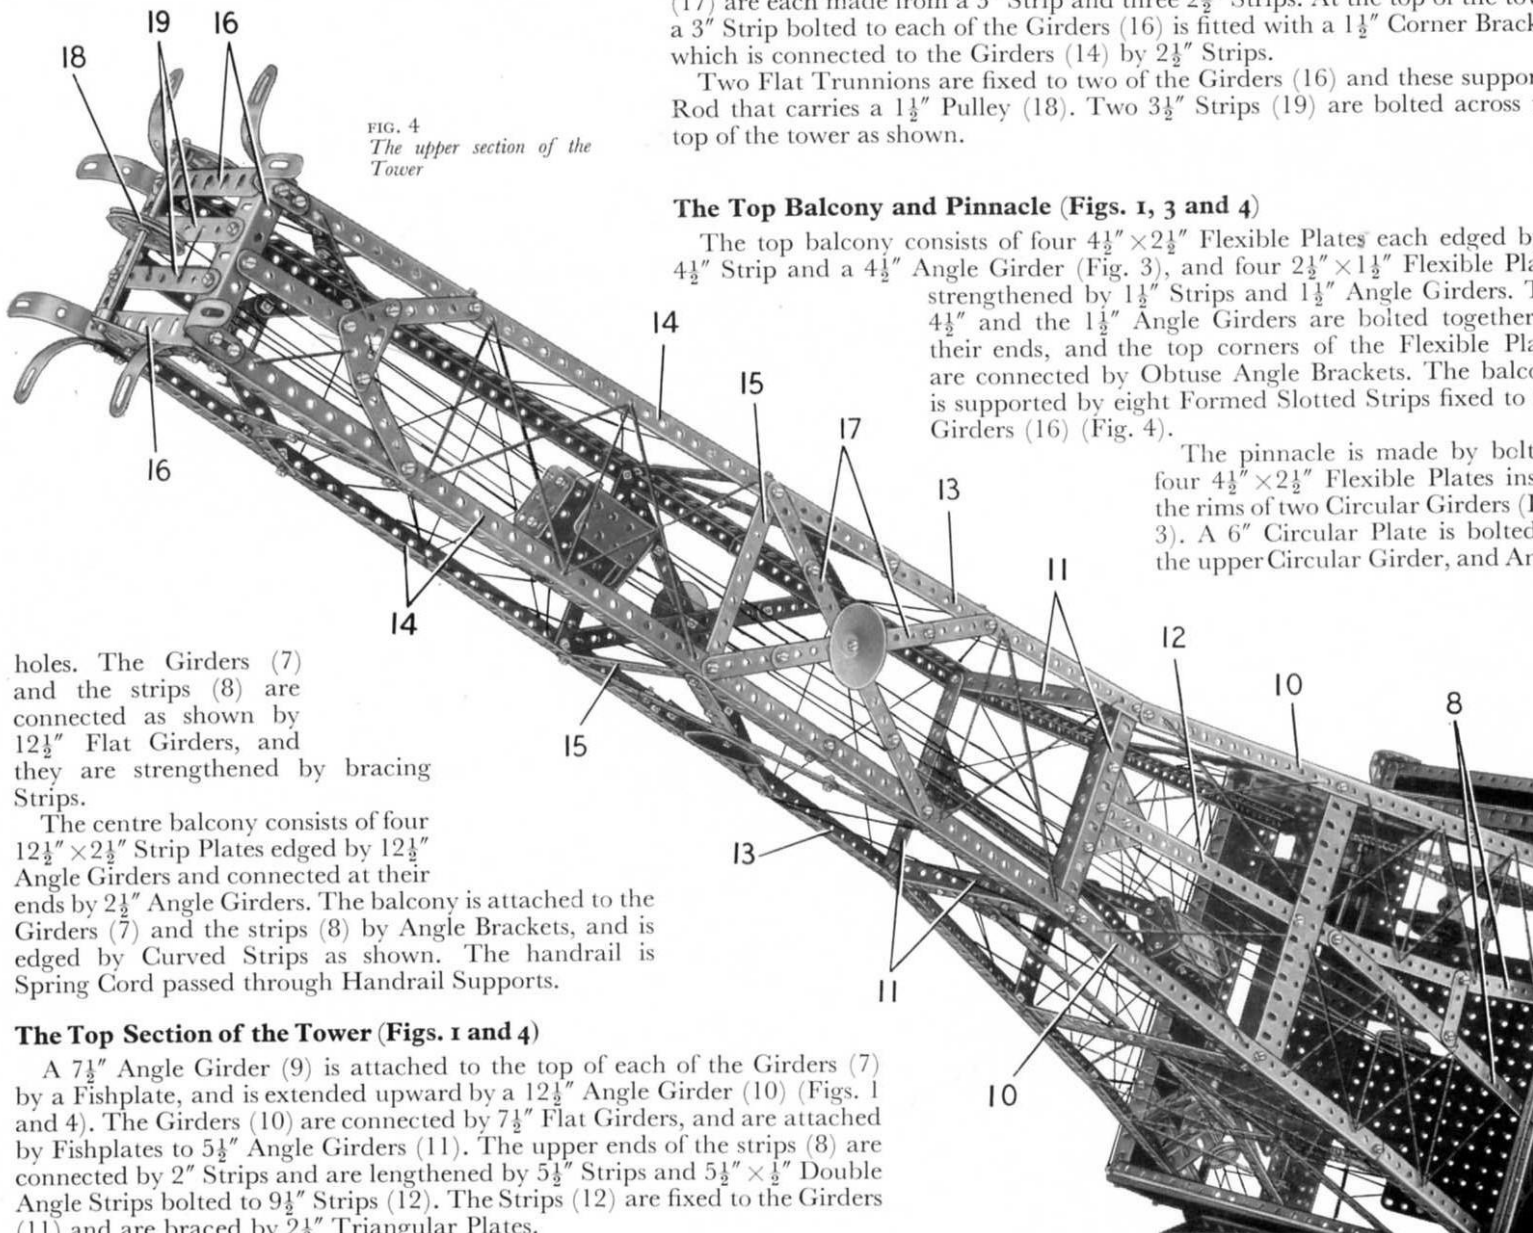
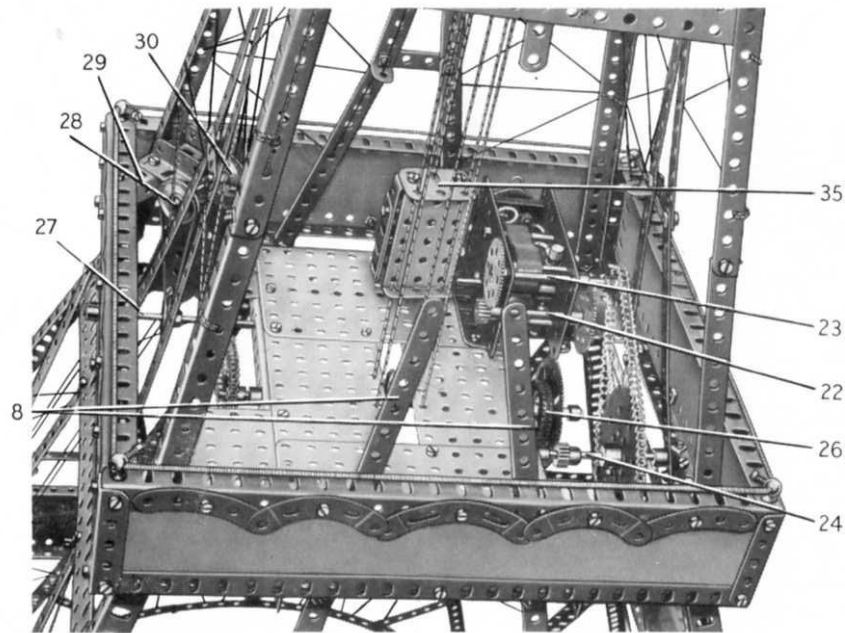
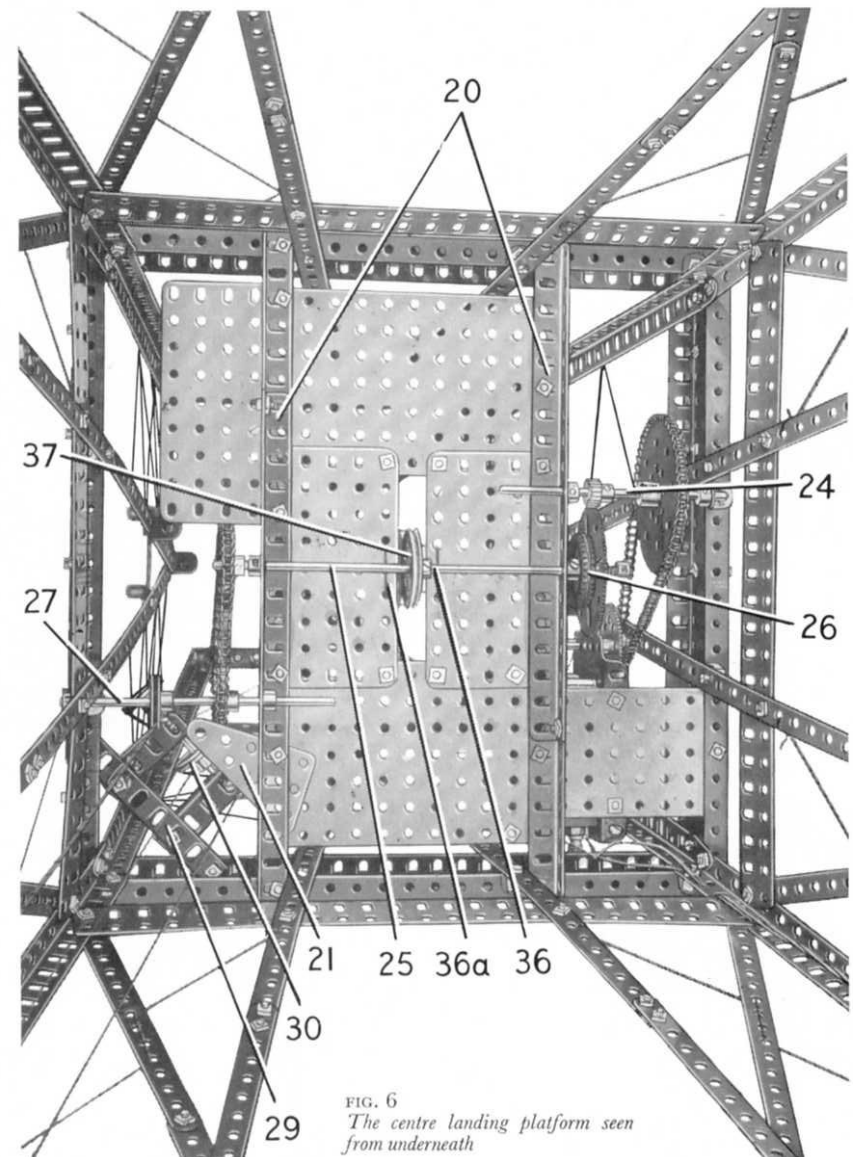

FIG. 4
FIG. 5
FIG. 6
The top balcony consists of four $4\frac{1}{2}$ " \times $2\frac{1}{2}$ " Flexible Plates each edged by a $4\frac{1}{2}$ " Strip and a $4\frac{1}{2}$ " Angle Girder (Fig. 3), and four $2\frac{1}{2}$ " \times $1\frac{1}{2}$ " Flexible Plates strengthened by $1\frac{1}{2}$ " Strips and $1\frac{1}{2}$ " Angle Girders. The $4\frac{1}{2}$ " and the $1\frac{1}{2}$ " Angle Girders are bolted together at their ends, and the top corners of the Flexible Plates are connected by Obtuse Angle Brackets. The balcony is supported by eight Formed Slotted Strips fixed to the Girders (16) (Fig. 4).
The Centre Landing Platform and Operating Mechanism (Figs. 5, 6 and 7)
Two built-up girders (20) (Fig. 6) are bolted underneath the centre balcony and to them are bolted Flat Plates as shown in Figs. 5 and 6. These Plates comprise two 5 1/2" x 3 1/2" Flat Plates and four 4 1/2" x 2 1/2" Flat Plates. A 2 1/2" x 1 1/2" Triangular Flexible Plate (21) is arranged as shown at one corner of the platform.
An E15R Electric Motor is bolted to the platform and a 7/16" diameter Pinion on its armature shaft drives a 60-tooth Gear on a 2 1/2" Rod (22) (Fig. 5). A 1/2" Pinion on this Rod engages a 57-tooth Gear on a 3 1/2" Rod (23), which carries also a 3/4" Sprocket. This Sprocket is connected by Chain to a 3" Sprocket on a Rod (24) mounted in one of the girders (20) and in an Angle Bracket bolted underneath the balcony. A 1/2" Pinion on Rod (24) drives a 2 1/2" Gear that is loosely mounted on a 6 1/2" Rod (25). A Compression Spring is placed on this Rod between the Gear and a Collar, and it forces the Gear against a Motor Tyre (26) on a 1" Pulley fixed on the Rod. This arrangement forms a
A 1 1/2" Sprocket on Rod (25) is connected by Chain to a 3/4" Sprocket on a 5" Rod (27) (Fig. 6). This Rod is mounted in one of the girders (20) and in an Angle Bracket bolted underneath the balcony. A Driving Band is passed round
a 1" Pulley on Rod (27) and round a similar Pulley on a 2½" Rod (28) (Fig. 5). Rod (28) is supported in two 2" Angle Girders bolted to a built-up girder (29). The girder (29) consists of a 3" Angle Girder and a 1½" Angle Girder bolted together. A 1" Pulley (30) is fixed on Rod (28).
The two lifts that operate between the centre platform and the top of the tower are each made by bolting two 2½" × 1½" Double Angle Strips between the flanges of a 2½" × 1½" Flanged Plate. A Girder Bracket is fixed to one Double Angle Strip, and a 1½" Flat Girder (35) (Fig. 5) is bolted to each flange of the Flanged Plate. The guide Cord for the lifts is tied to one of the Strips (19) (Fig. 4), is passed through the Flat Girders (35) of one lift, and through the second stage platform as indicated at (36) (Fig. 6). The Cord is passed through the Flat Girders (35) of the second lift and is taken through holes in the Strips (19) before it is again passed through the Flat Girders of the second lift. The Cord is then taken through the centre platform at (36a) (Fig. 6) and is tied to one of the Strips (19).
The operating Cord for these lifts is tied at one end to a Tension Spring placed inside one of the lifts. The Cord is passed through the top 1½" Flat Girder of this lift, round the Pulley (18) and through the top 1½" Flat Girder of the second lift, where it is tied to another Tension Spring. A length of Cord fastened to the lower end of this Spring is passed through the bottom 1½" Flat Girder, is taken round a 1½" Pulley (37) (Fig. 6) on Rod (25), through the bottom of the second lift and is tied to the lower end of the Spring in this lift.